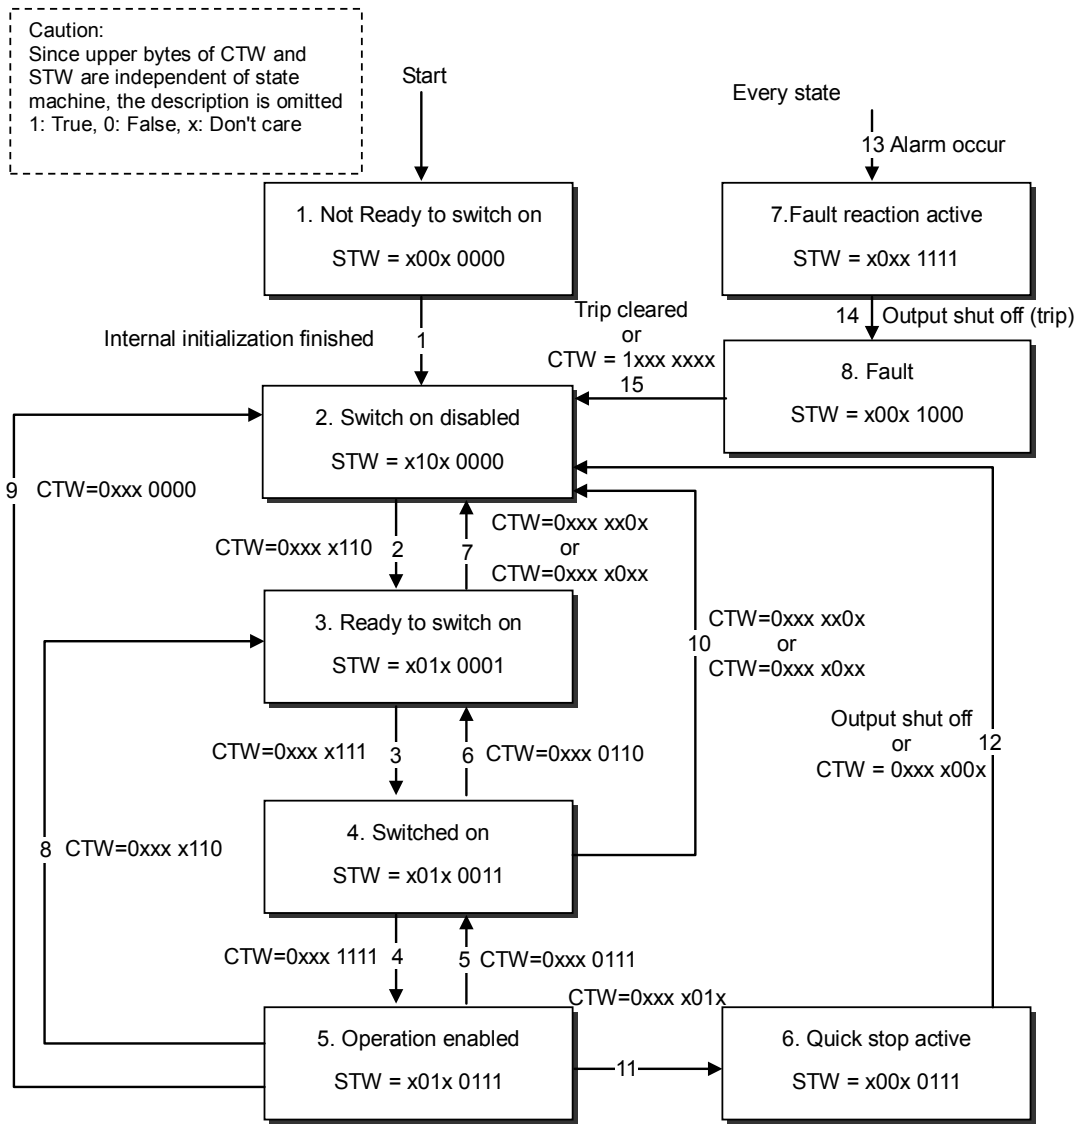

Figure 9.2-3 State Machine
- bits 0 to 3 : Operates the state change of state machine. Refer to Figure 9.2-3.
bits 0 to 2, 5, 6 : Displays the state machine status. Refer to Figure 9.2-3.
To run the inverter, operate the state machine (state transition diagram) defined with DSP 402. The state of the state machine is changed by Controlword (CTW in the figure) and the state is monitored by Statusword (STW in the figure). The Figure 9.2-3 shows the state machine and the Table 9.2-18 shows the commands to the inverter during each state transition.